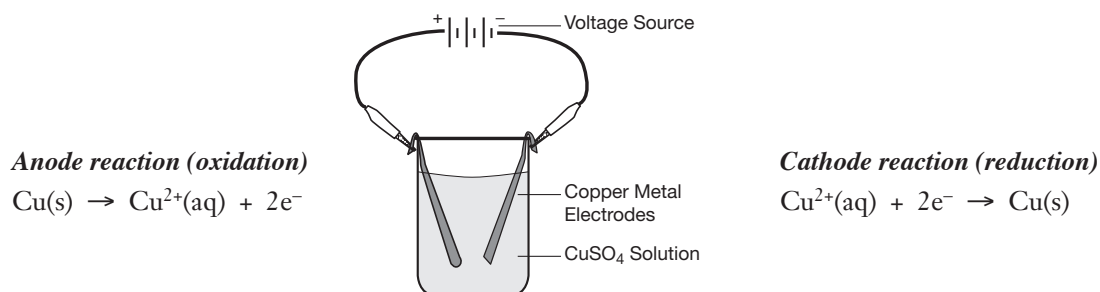

Figure 1. Basic Diagram of an Electroplating Cell.
Electroplating is the process of depositing a metal on the surface of a conductor by passing electricity through a solution of metal ions. Figure 1 shows a basic diagram of an electrolytic cell for a “copper-plating” reaction. The electrodes are copper metal. Oxidation of copper metal to copper(II) ions occurs at the anode, and reduction of copper(II) ions to copper metal occurs at the cathode.